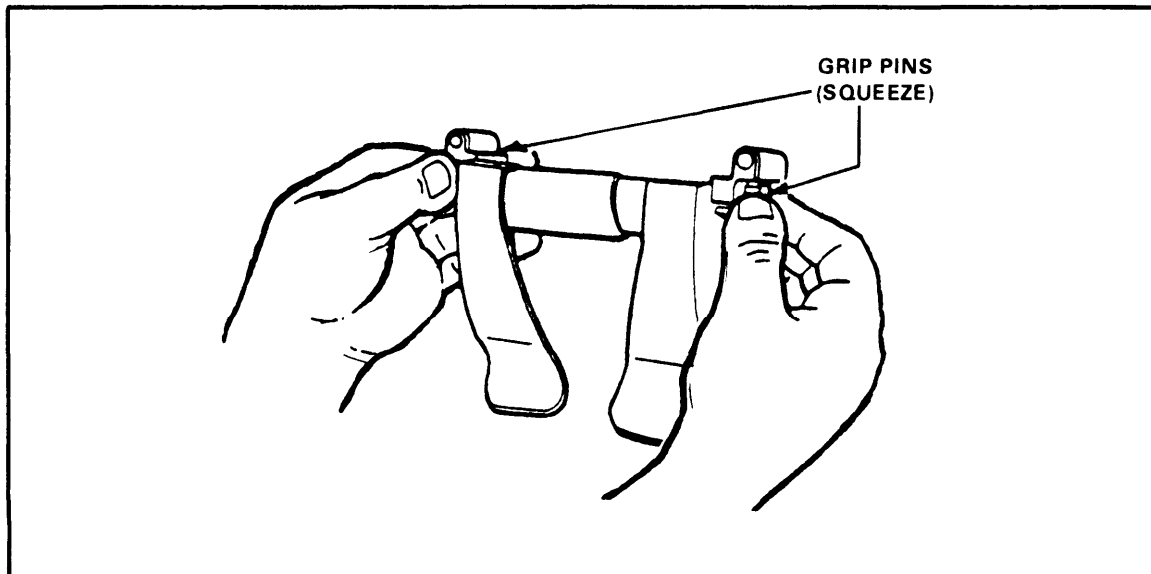
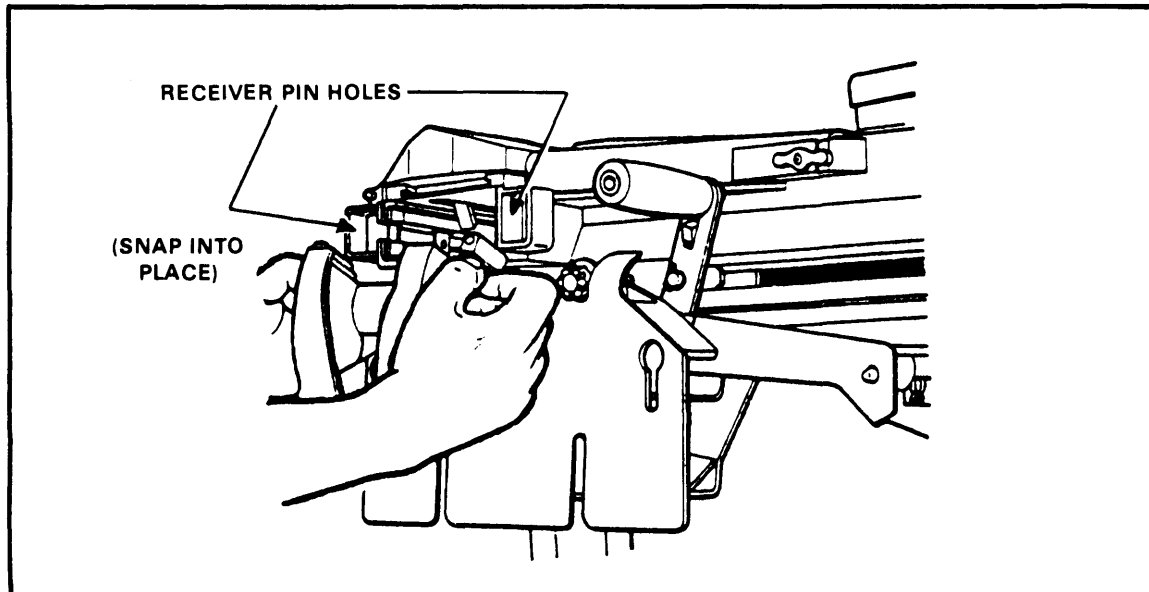
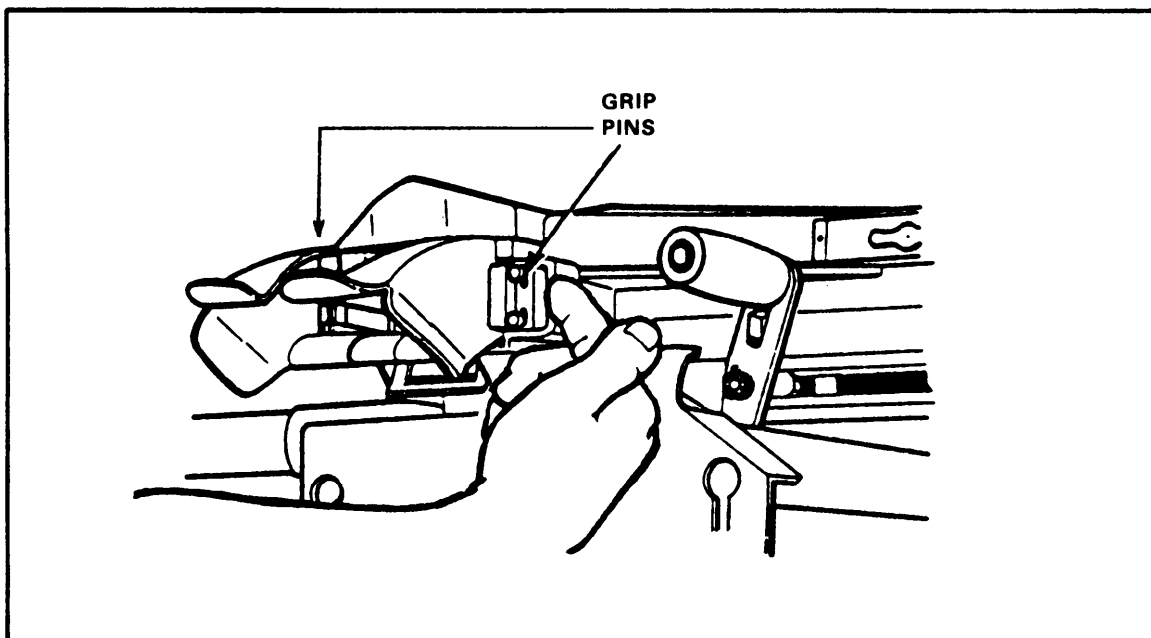

Figure 3-11. Grip pins.
Figure 3-12. Feed throat alignment.
Figure 3-13. Feed throat installation.
g. Attach the feed throat to the MK 19 by squeezing together each set of grip pins (Figure 3-11) and attaching the feed throat to the front left-hand side of the receiver assembly. The pins of the feed throat must line up with the pin holes in the receiver (Figure 3-12). Relax pressure on the spring-loaded grip pins so they will snap into place (Figure 3-13).